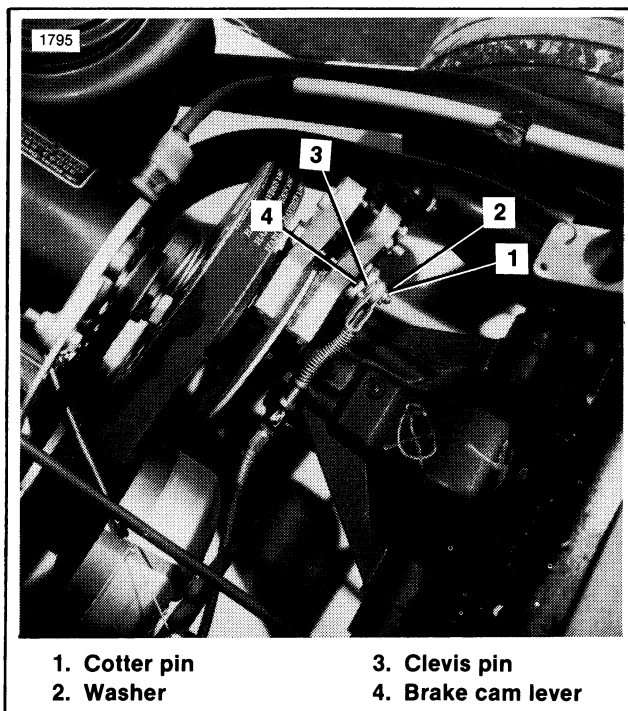

Figure 4-7. Removing Caliper
REMOVAL (Figure 4-7)
3. See Figure 4-7. Disconnect brake cable by removing cotter pin (1), washer (2) and cable pin (3). Lift brake out.
4. See Figure 4-7. Connect brake cable using cable pin (3), washer (2) and cotter pin (1).